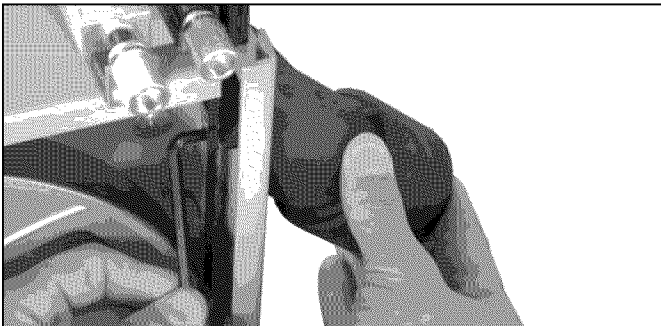

Figure 2 - Attach 2½" Dust Port
Refer to Figure 2.
- Locate two hex socket head cap screws and two washers from the bag of loose parts. Mount the dust port to the band saw frame and install a hex socket head cap screw with washer in each hole, then tighten with M5 hex "L" wrench (see Figure 2).